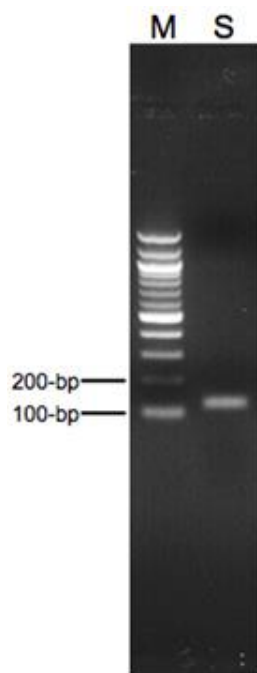

Figure 4. Gel electrophoresis of the PCR product. M = 100-bp DNA ladder. S = 5 μ l of sample.
3. Run and analyze 5 μ l of the PCR product on a 2% agarose gel with a 100-bp DNA ladder. You should see a single band at ~130 bp (see Figure 4).